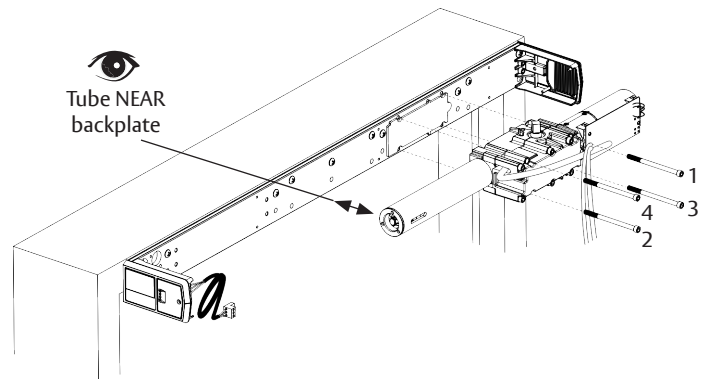

Figure 8
1. Using four (4) screws, install closer body to backplate. (Figure 8)
- Screws must be tightened in a cross pattern until all four (4) screws are tight. (Figure 8)
- Closer body is in proper orientation for PUSH SIDE application when tube is NEAR backplate. (Figure 8)